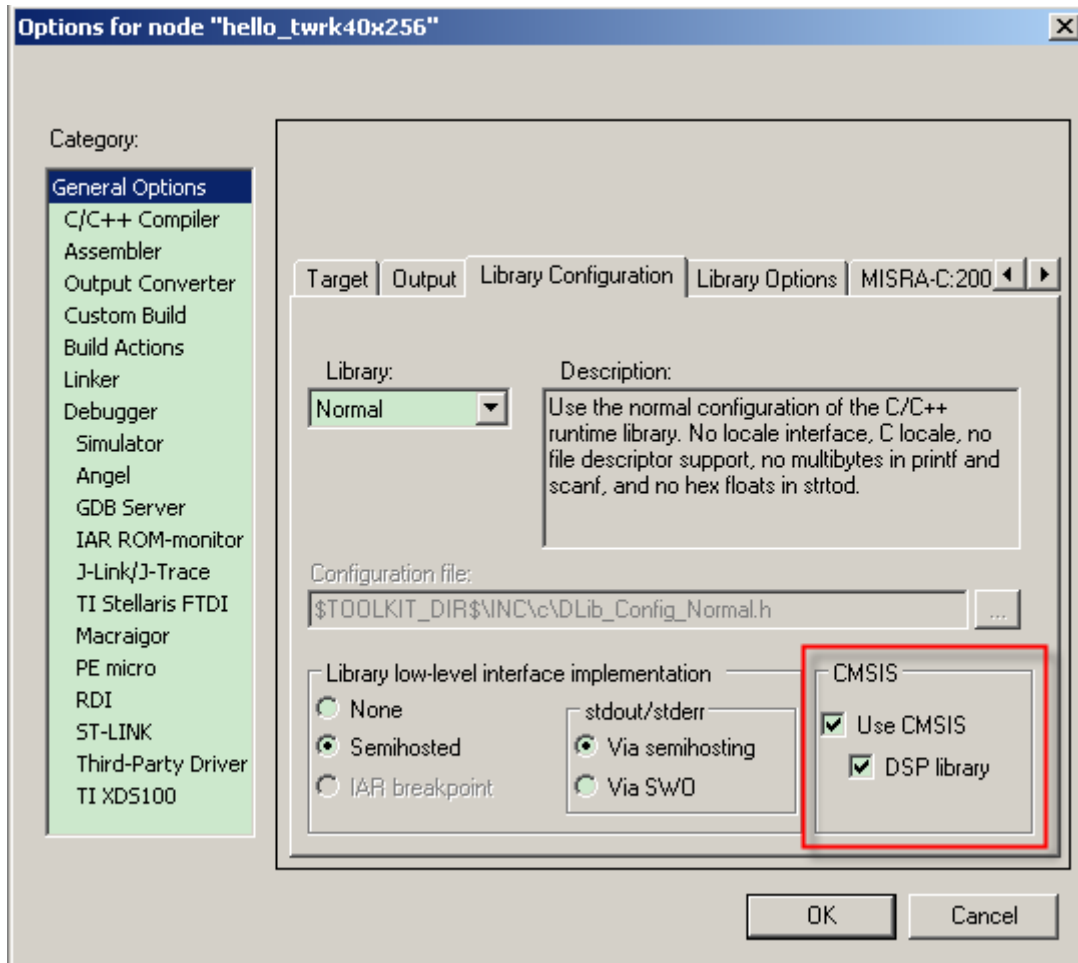

Figure 3. Enable CMSIS DSP library on IAR
4. Enable the CMSIS DSP library on IAR by going to menu Project->Options. On General Options select the tab Library Configuration. Then check the Use CMSIS checkbox, and afterwards the DSP library checkbox. For more details see Figure 3.